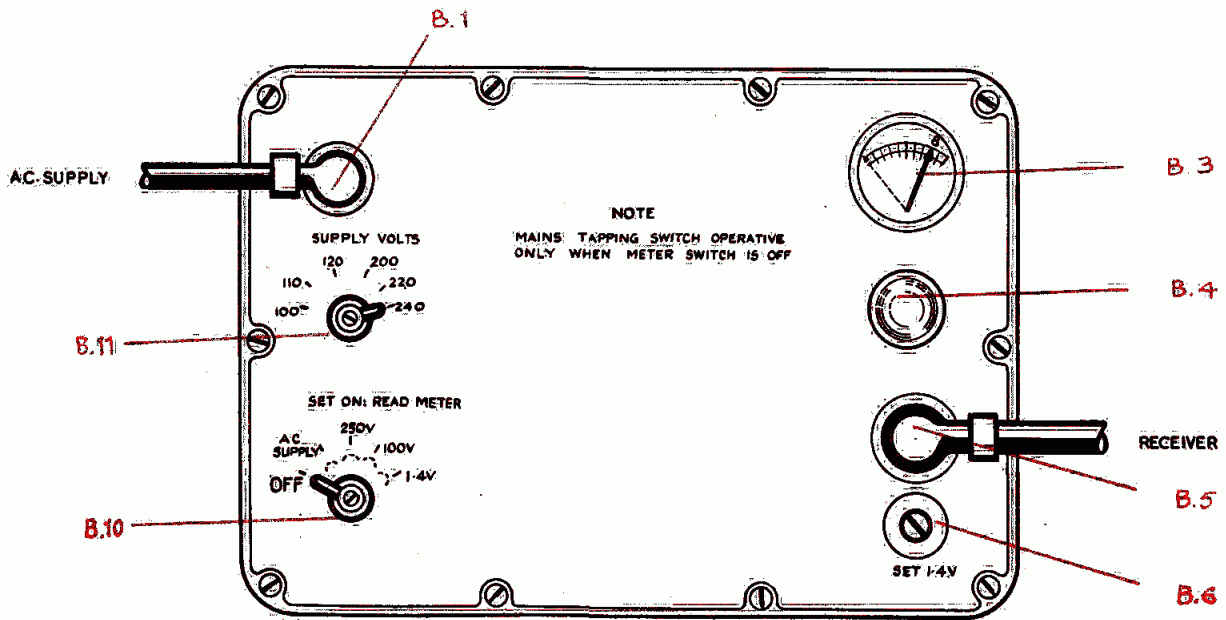
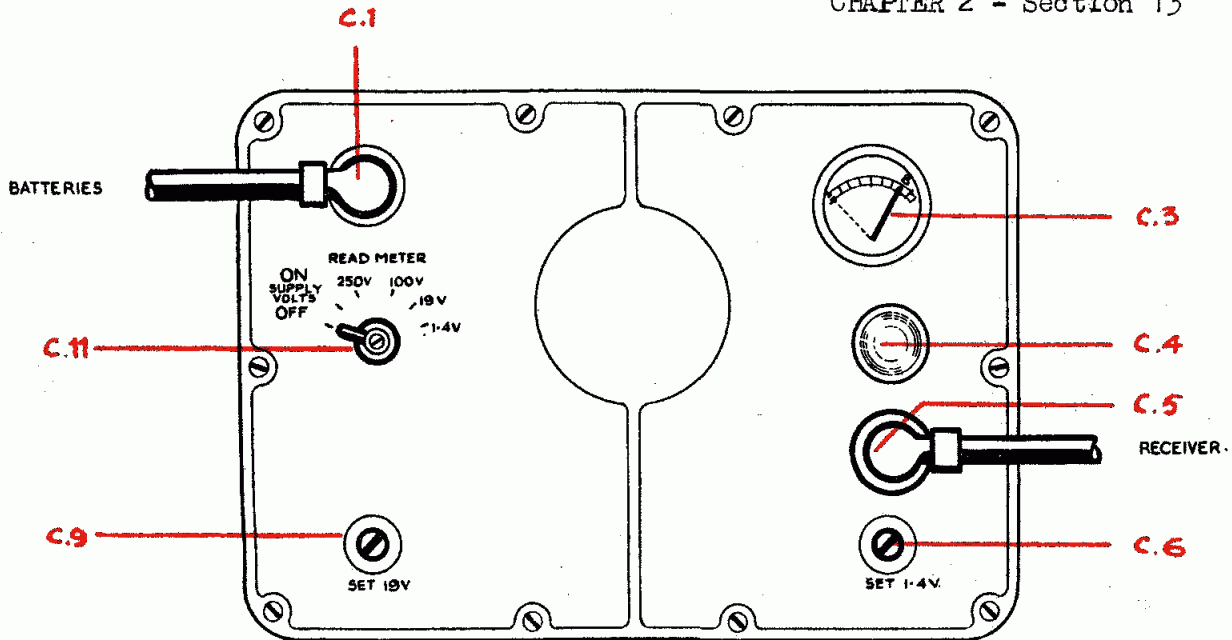

FIG. 12
FIG.13
Refer to fig.12.
Refer to fig.13.
- (1) Set the power supply unit meter switch (B.10 on the AC unit fig.12 or C.11 on the DC unit fig.13) to its ON position and observe that the indicator lamp glows.
- (1) The limits of accuracy to which a frequency may be set up are within  $\pm 50$  kc/s at 150 Mc/s or within  $\pm 15$  kc/s at 30 Mc/s, these figures being within half a bandwidth for the wide and narrow bands respectively.
- (2) The following paragraphs describe as an example the method of setting the receiver to a frequency of 102.9 Mc/s.
- (3) Set the power supply unit meter switch (B.10 in fig.12 or C.11 in fig.13) to its ON position and observe that the red indicator lamp glows.
- (4) Set the SCALE LIGHT control (A.1) to the required degree of brilliance, turning the switch clockwise to increase.
- (5) Check that the CALIBRATOR switch (A.7) is turned to the OFF position.
- (6) Check that the RF GAIN control (A.13) is in its fully anti-clockwise position.
- (7) Check that the AF LEVEL control (A.14) is at approximately the mid-point of its traverse.
- (8) Set the frequency band switch (A.8) to the required frequency band. The scale covering this band will then be illuminated.
- (9) Set the system switch (A.12) to the CW position.